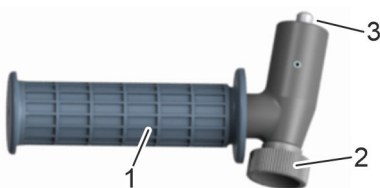

Fig. 11: Adjusting the handle
If available, adjust the handle (Fig. 11/1). To do so, loosen the wheel (Fig. 11/2), turn the handle to the desired position and refasten the wheel.
3. ➔ Make sure that the handle is firmly attached to its low profile hydraulic wrench connection (Fig. 11/3).